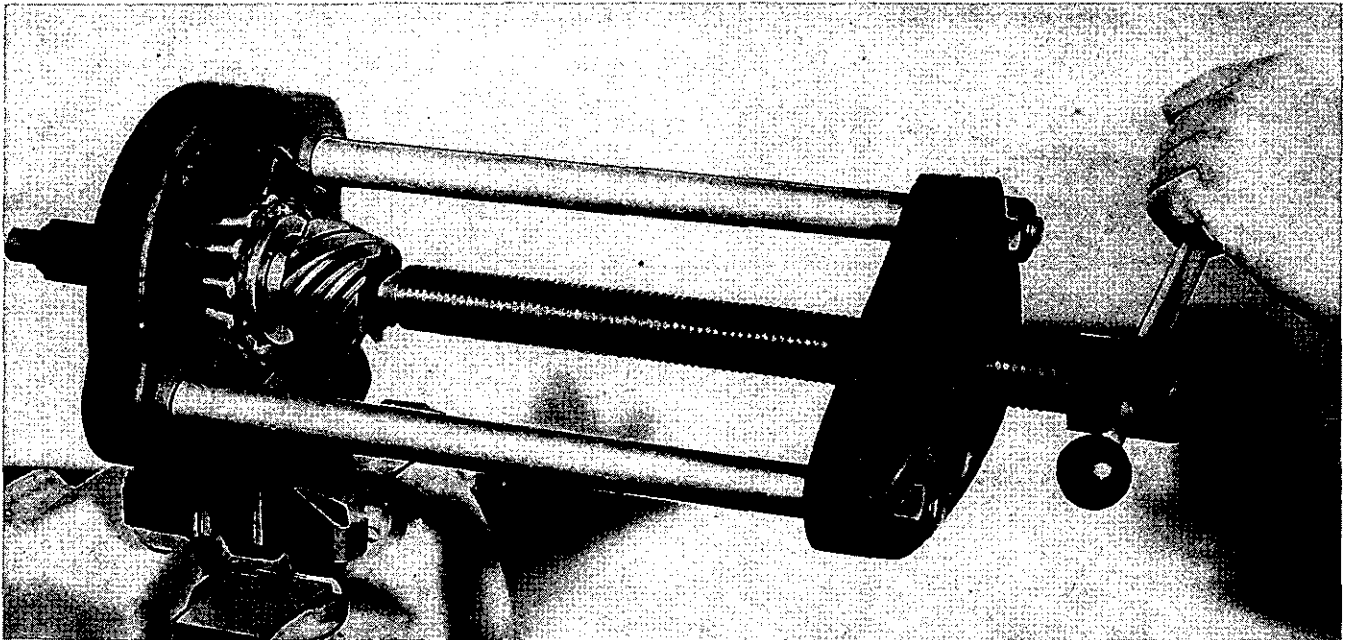

Fig. 19. Fitting Pinion Bearing Inner Cone—Tool No. 20S. M.4615.
9. The inner portion of the pinion head bearing is pressed into position on the pinion with the special fixture shown in Fig. 19.